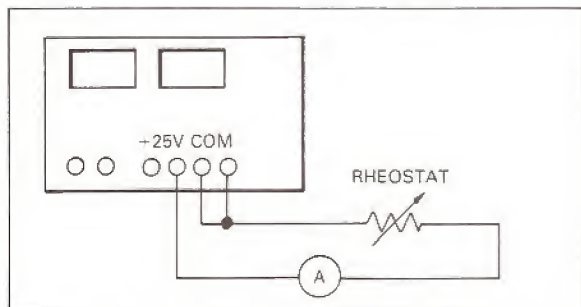

Figure 7-1.
- c. Connect a known calibrated ammeter and a 12.5W (25W for the LPS-152) rheostat as shown in Figure 7-1.